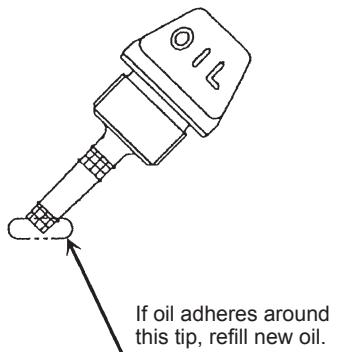
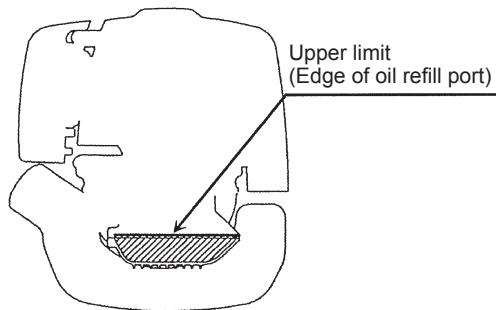

Fig. 1
Fig. 2
When the oil is in short in such a way that the oil gauge touches the oil only by its tip, in particular with the oil gauge remaining inserted in the crankcase without screwing-in (Fig. 1), refill new oil near the port (Fig. 2).
- (1) Keep the engine level, and detach the oil gauge.
- (2) Fill oil up to the edge of the oil refill port. (Refer to Fig. 2 of the preceding page).